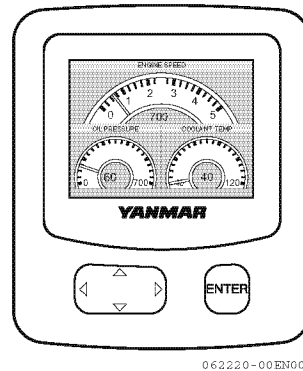

Figure 4
- When the engine starts, the VC10 display will show the screen with engine conditions (**Figure 4**).